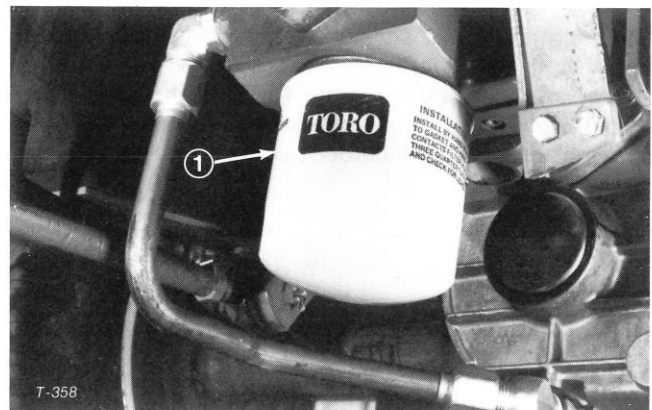

Figure 81
1. Clean area where hydraulic oil filter mounts. Remove filter from transmission (Fig. 81) and clean oil filter mounting surface on bottom of transmission.